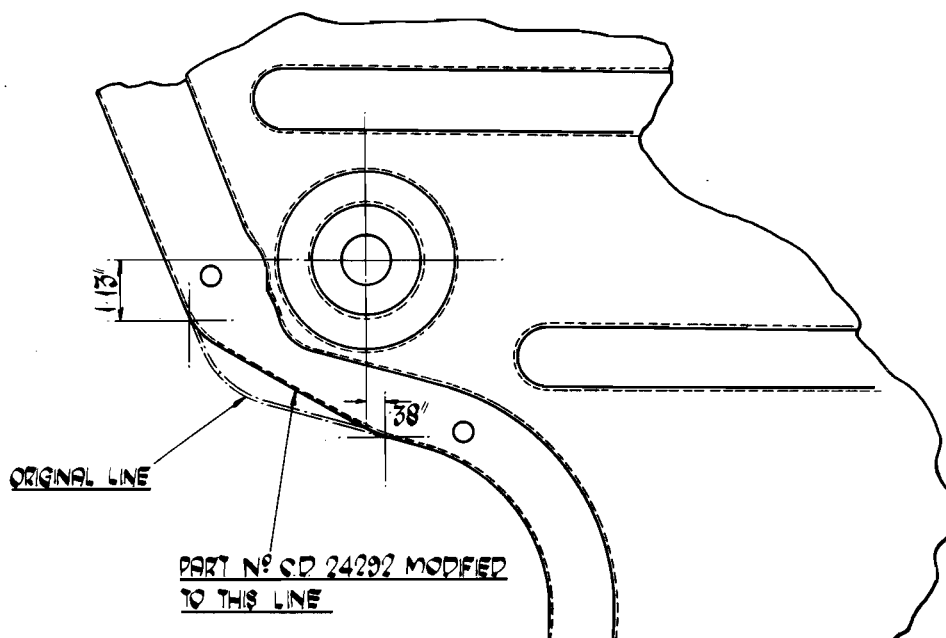

Fig. 6. Showing cut-away portion of floor pressing. This modification is scheduled to be introduced into normal production.
12. A portion of each side of the floor pressing should be cut away, as indicated in Fig. 6, to provide the necessary clearance on the additional width of the Overdrive Unit.